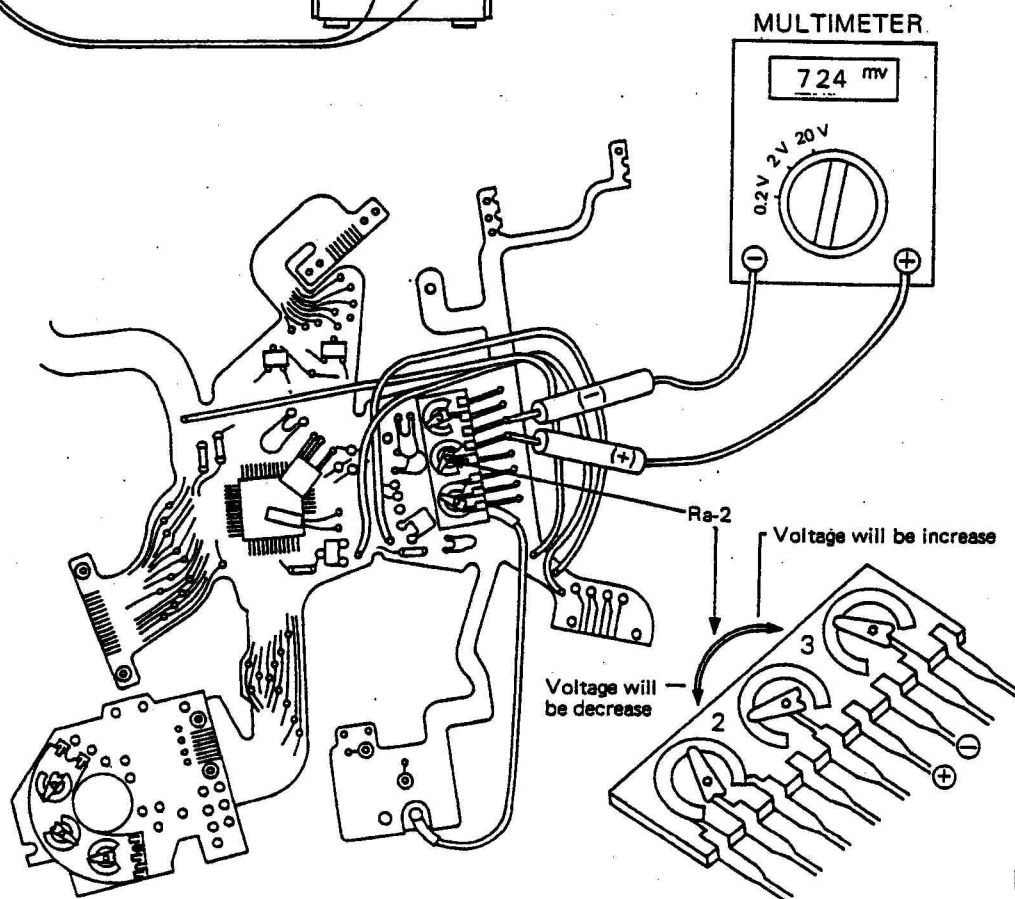

Fig. 73
- Check the voltage between two check points as shown in (fig. 73) with the Digital Multimeter.